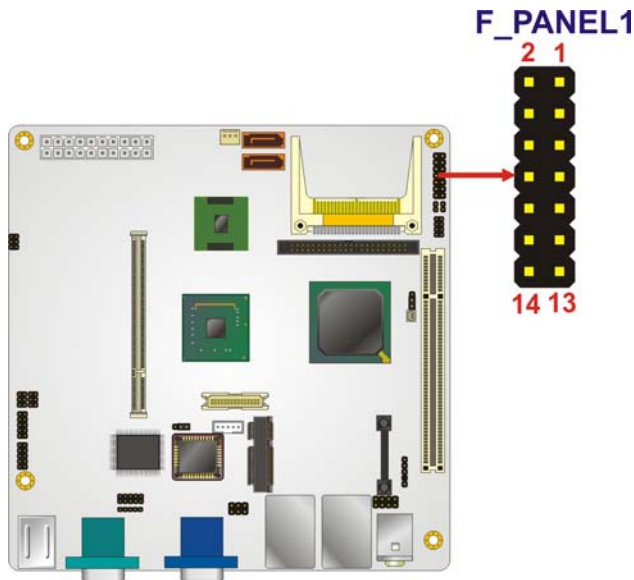

Figure 4-7: Front Panel Connector Pinout Locations
- CN Location:** See **Figure 4-7**